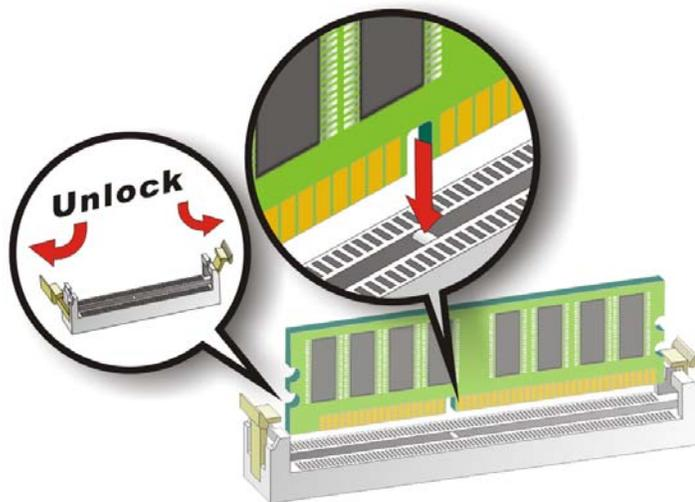

Figure 4-1: Installing the DIMM Module
The 3307920 CPU card has one DDR SDRAM DIMM socket. To install a DIMM module, follow the instructions below and refer to **Figure 4-1**.
Step 1: Make sure the two handles of the DIMM socket are in the "open" position, leaning outward (**Figure 4-1**).